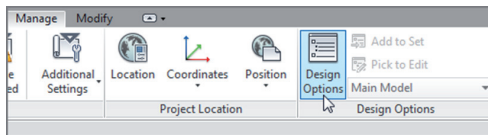

FIGURE BC7.9: Clicking the Design Options button
1. On the Manage tab, click the Design Options button, as shown in Figure BC7.9.